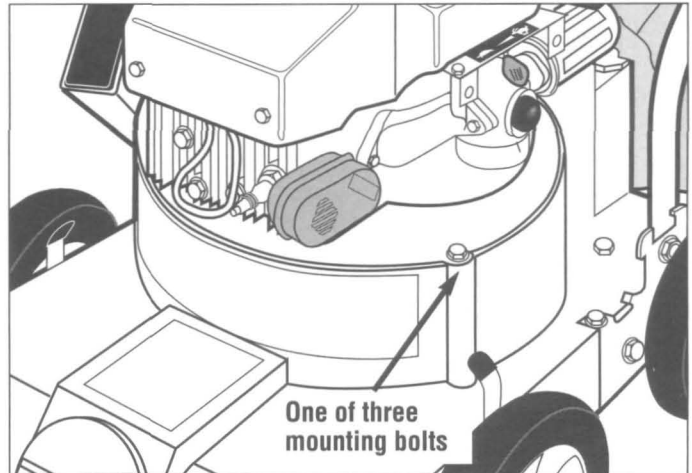

Figure 26: Engine mounting bolts.
- With a 3/8" wrench, remove the three bolts that secure the engine mounting base to the deck. One bolt is shown in Figure 26. A second bolt is located at the rear of the machine above the left side of the blower opening. This second bolt also secures the short wire leading to the safety interlock. Remove the wire and the lockwasher along with this bolt. Also, disconnect the long safety interlock wire where it attaches to the engine above the engine muffler. A third bolt is located near the right front wheel.